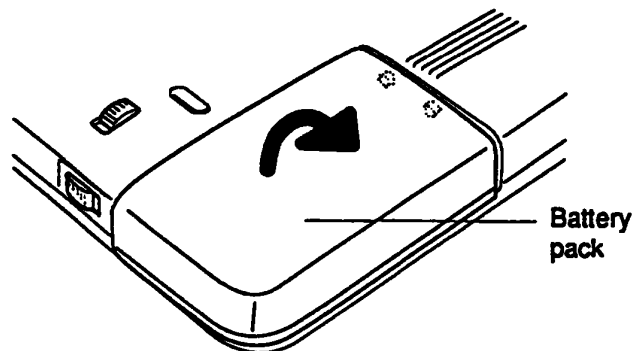

Figure 4-2 Removing the Battery Pack
5. Grasp the **battery pack**, slide it free of the latches, and lift it out (Figure 4-2).